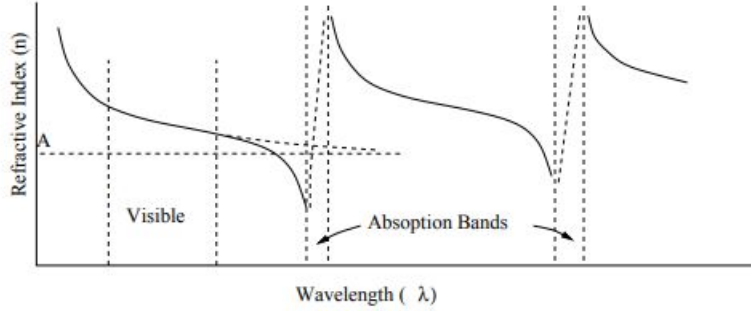

Figure 12: Anomalous dispersion
In (4), when  $\lambda = \lambda_0$ , the trend would diverge and give the same result as in figure 12. To explain many absorption bands, we have to assume different species of electrons with different natural frequencies  $\omega_j$  corresponding to wavelengths  $\lambda_j$  in the substance and then